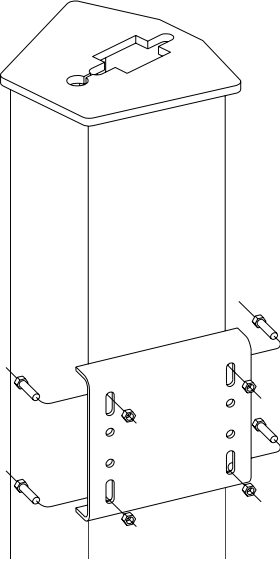

Figure 9
12. Secure four 5/16 x 1-1/4" bolts onto the power unit mount bracket with 5/16 hex nuts. See Figure 9.